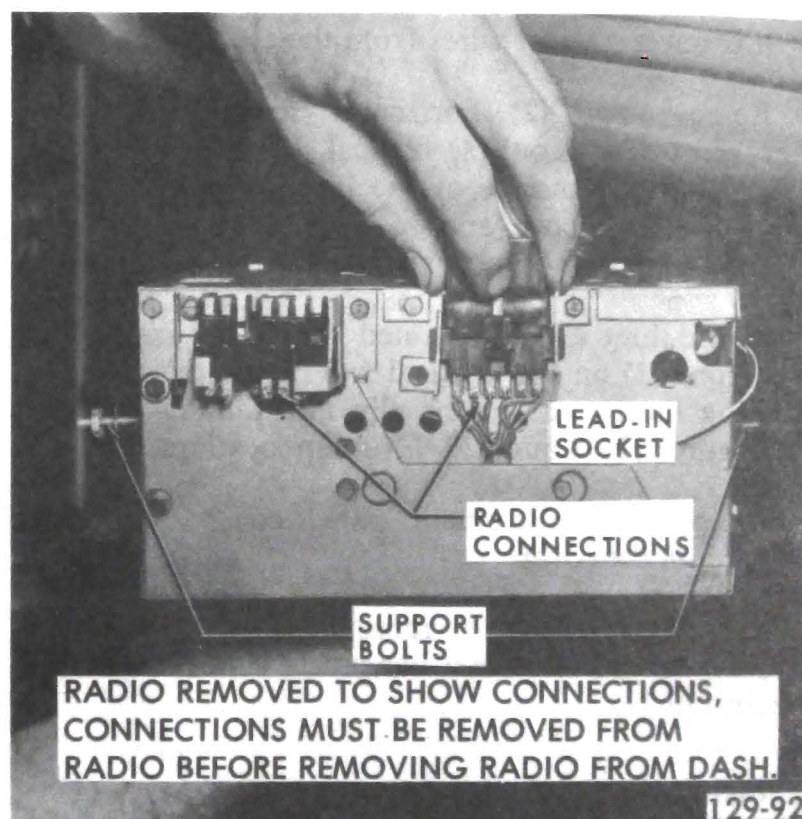

Figure 129-7
5. Separate the (2) multiple connectors and antenna lead-in before the radio is removed. See Figure 129-7.
remove the radio from the opening, lowering it from behind the instrument panel. See Figure 129-7.
1. Install radio and secure with radio support, bolts, and nuts. See Figure 129-7.
2. Connect the two (2) multiple connectors and antenna lead-in. See Figure 129-7.